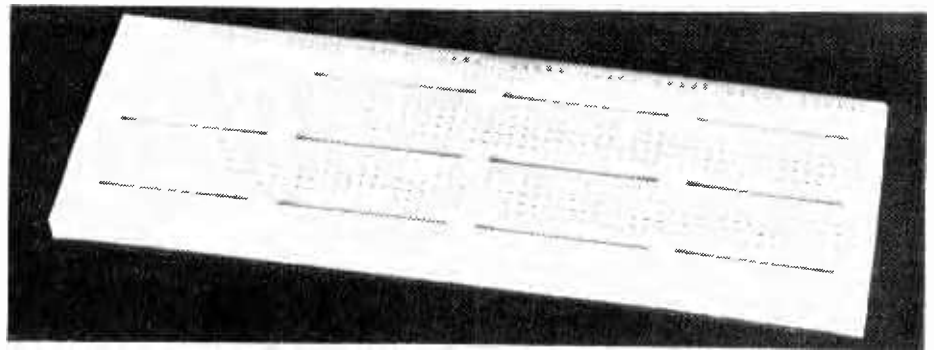

Fig. 4
**Super Strip**, see Fig. 4, measures 165  $\times$  57mm and follows the pin connection system in Fig. 1(a). The layout will accept 0.3in i.cs, or 0.6in types by sacrificing some potential connection points. Most other discrete components can be accommodated with lead diameters up to 0.81mm. The layout has 640 main sockets in a 0.1in matrix which is arranged as two columns, each of 64 rows containing five interconnected sockets. Four extra rows, each with two